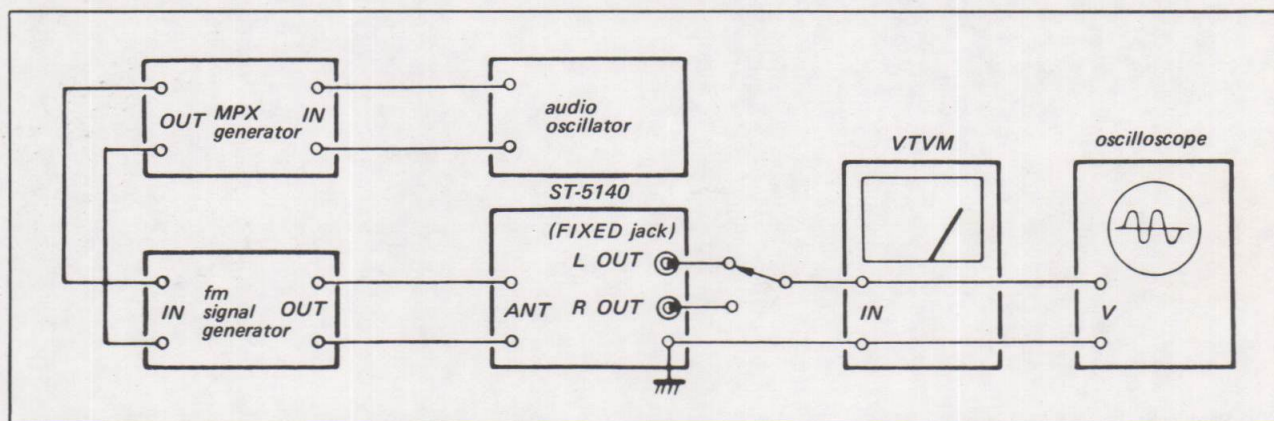

Fig. 3-8. Fm stereo separation adjustment test setup
1. Connect the equipment as shown in Fig. 3-8. Set the fm signal-generator's control as follows:
- (a) With the equipment connected as shown in Fig. 3-8. Set the MPX stereo generator controls as follows: